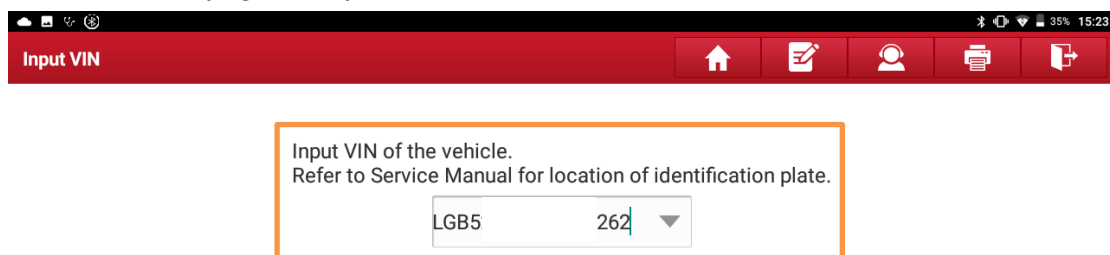

Figure 14
- Click the input box and enter the VIN. After entering the information, confirm that it matches the vehicle's actual VIN. Once confirmed, click "Confirm" (Figure 14).